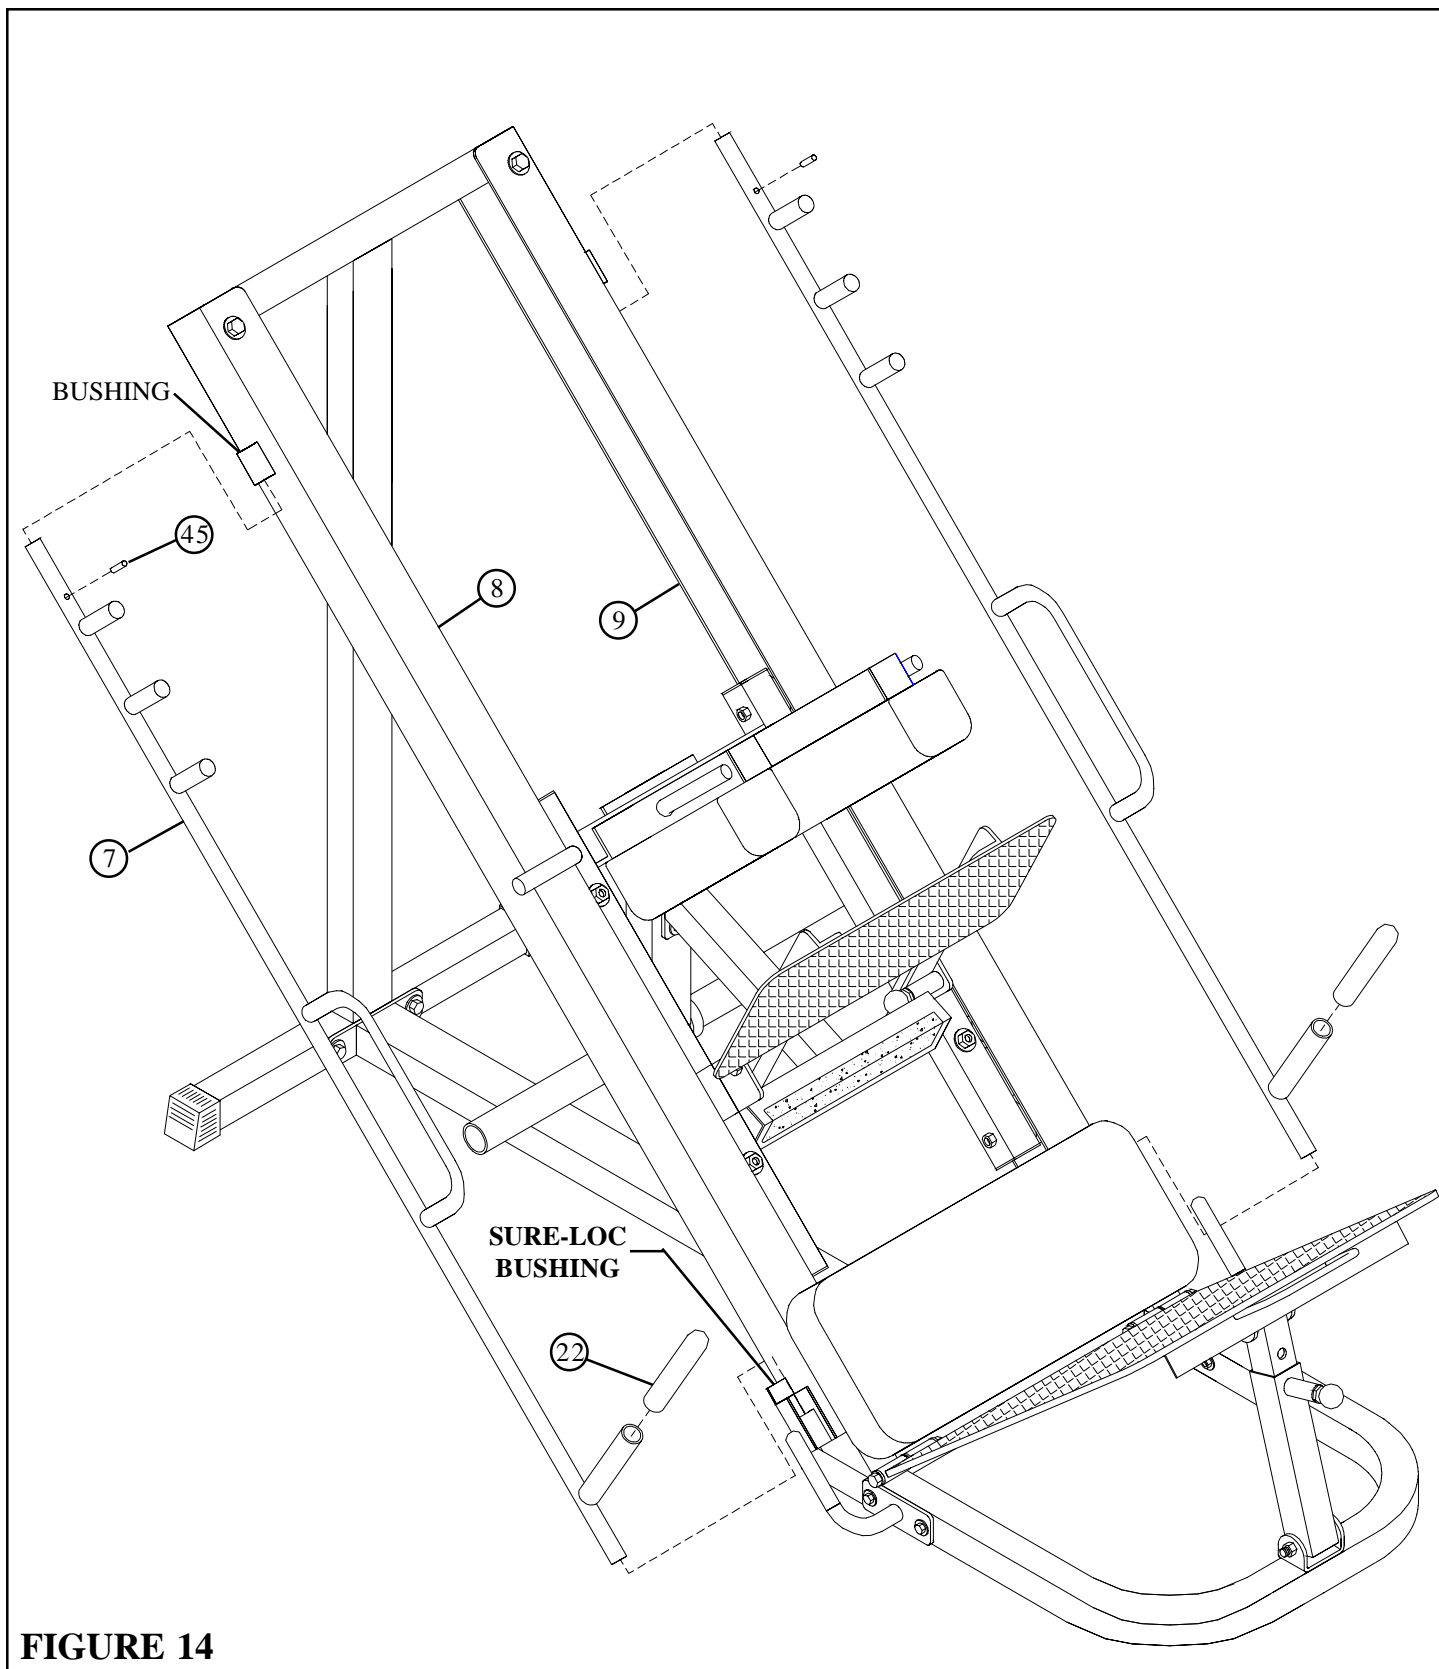

FIGURE 14
- To assemble the CARRIAGE STOP BAR (7) to the side of the LEFT RAIL (8), start by inserting the top of the BAR (7) into the BUSHING at the top of the RAIL as far as possible, then lower the BAR (7) into the SURE-LOC BUSHING at the bottom of the RAIL. **(MAKE SURE THE STOP PEGS ARE VERTICAL)**, then insert one 1-1/4" ROLL PIN (45) into the hole at the top of the BAR (7). **(DO NOT LET THE ROLL PIN PROTRUDE BENEATH THE BAR)** Repeat this step on the RIGHT RAIL (9).
- Slide two 1-1/4 X 5" GRIPS (22) over the HANDLES on the CARRIAGE STOP BARS (7) as shown in FIGURE 14.